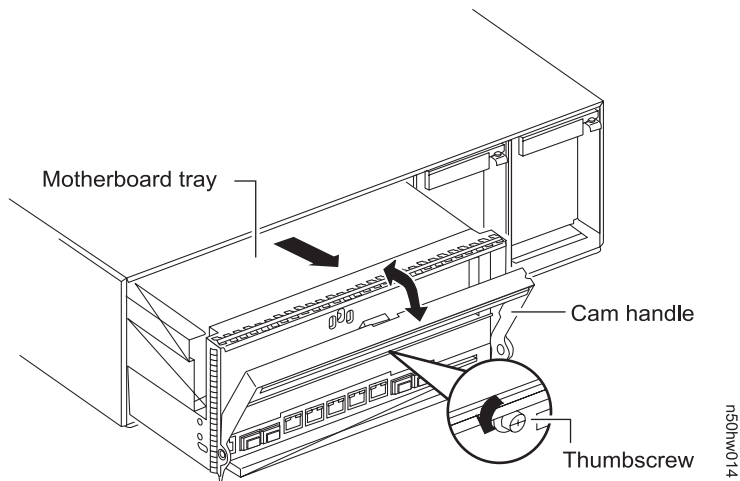

Figure 17. Motherboard tray
6. Loosen the thumbscrew on the cam handle, as shown in Figure 17 on page 41.
7. Using Figure 17 on page 41 for reference, open the motherboard tray by pulling the cam handle downward and sliding the tray out of the system until it catches. Make sure that you support the bottom of the motherboard tray with your free hand.